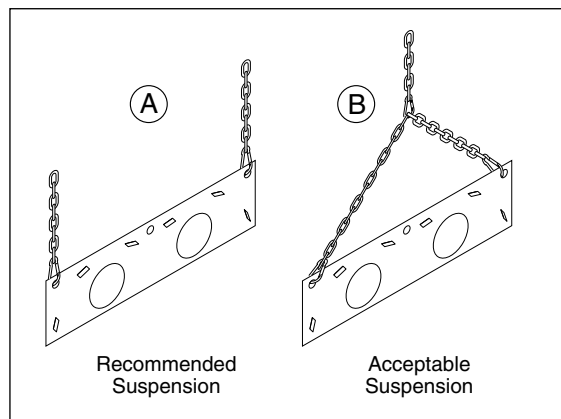

Figure 2. Bracket Suspension
- 3.4.9 Prepare the hanging chains at the position where the heater will be located. Suspend the heating system as recommended below. Use the center holes of the end and first bracket to lift the heating system into position. Chains used should have 100 kg minimum breaking load and preferably should be galvanised finish. Figure 2 shows two suspension methods. Method A is recommended because it provides a semi-rigid suspension. Method B is acceptable.